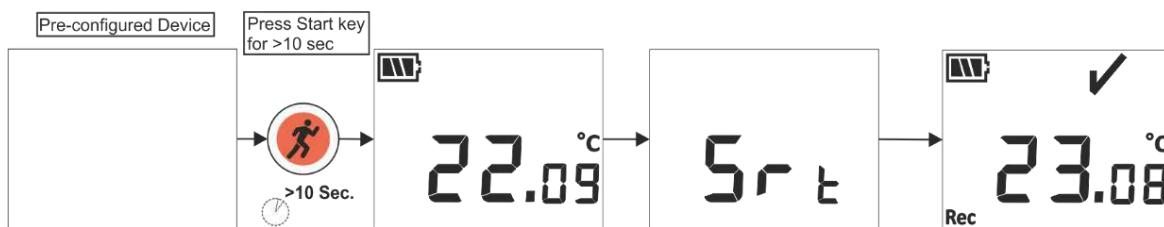

Figure 7 Start batch manually
2. User can manually start the device after batch configuration, if required by pressing "Start" key for about 10 seconds as shown in figure 7.